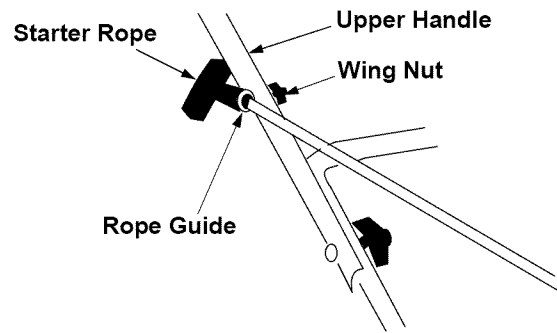

Figure 6
- Loosen the wing nut holding the rope guide to the upper handle. See Figure 6.